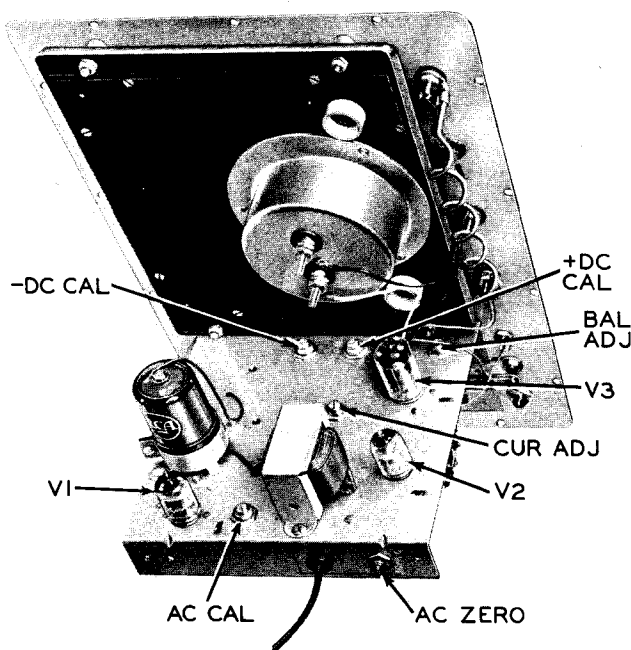

Figure 11. Locations of tubes and calibration controls
A schematic diagram of the WV-87B is shown in Figure 6 and locations of calibration controls are shown in Figure 11. If it becomes necessary to replace any of the component parts, only RCA replacement parts or their equivalents should be used. When ordering replacement parts for the Master Volt-Ohmyst, consult the Replacement Parts List on page 12 and specify the code and serial numbers of the instrument as well as the stock number of the replacement part.
6. With a screw driver, adjust the "+DC CAL" potentiometer (R15) to bring the pointer exactly to the 48-volt mark on the scale. (See Figure 11 for location of calibrating controls.)